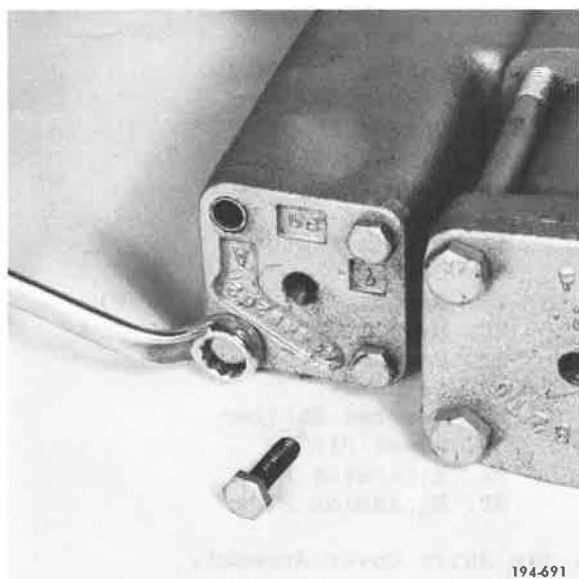

Figure 171. Removing Capscrews
3. Remove reverse shift cover cap-screws. See Figure 171.